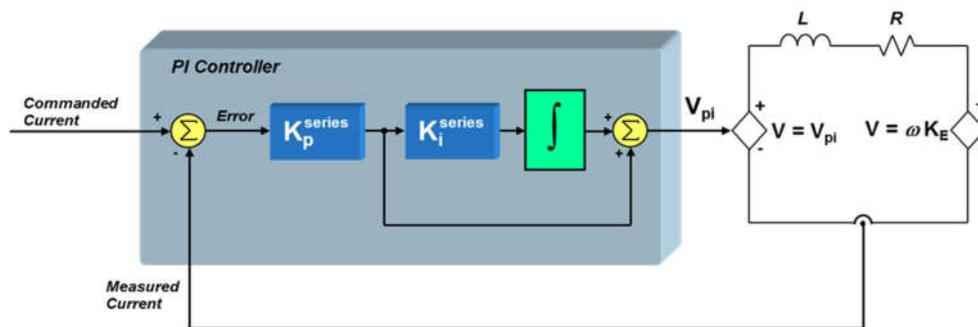

Figure 45: Series PI current controlled motor system including the stator.
A popular form of the proportional-integral (PI) controller (and the one used for this lab) is the “series” topology which is shown in **Figure 45**.